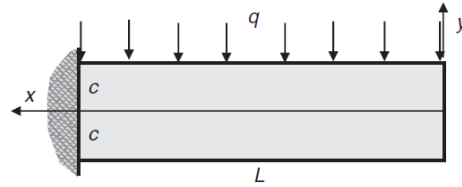

Figure 1
6. The Airy stress function required to find the stresses in the cantilever beam (of unit width) as shown in Figure 1 is $\varphi = C_1x^2 + C_2x^2y + C_3y^3 + C_4y^5 + C_5x^2y^3$. Find the values of the constants using the requirements that φ should satisfy the biharmonic equation and the boundary conditions (pointwise boundary conditions on the top and bottom of the beam and integrated boundary conditions on the ends $x = 0$ and $x = L$).